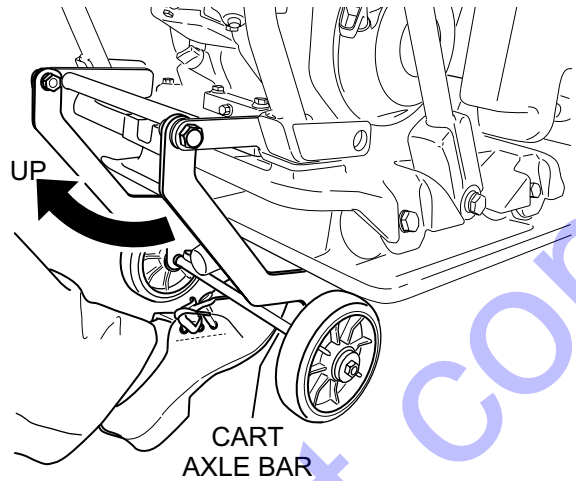

Figure 15. Raising Axle Bar (Foot)
- Once the wheels have been positioned away from the rear of the compactor, place your foot (Figure 15) underneath the cart axle bar so that the cart can be raised.